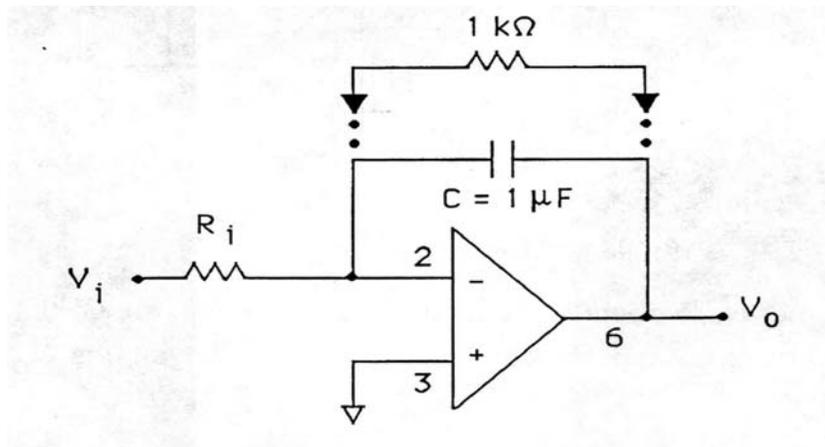

Figure 9.8: Integrator circuit 9.6.1.
9.6.1 Integrator - Circuit 9.6.1 Use the assembled circuit of Figure 9.8 having $R_i = 1\text{Meg } \Omega$ and $C = 1 \mu\text{F}$. Do not connect the $1\text{k}\Omega$ resistor. The theoretical input-output
In analog simulation, also termed analog computation, electronic circuits with op amps are used to solve differential equations. The heart of the technique is the op amp integrator circuit shown in Figure 9.8. Based on Equation (9.5), equating the input to an op amp integrator v_i equal to dy/dt , then the output of the integrator v_o is $-(1/R_iC) y(t)$. Thus, the voltages in the op amp circuit, i.e., v_o and v_i , can be "analogs" of other physical parameters such as distance (feet), velocity (ft/sec), force (lb), temperature ($^{\circ}$ C), etc.